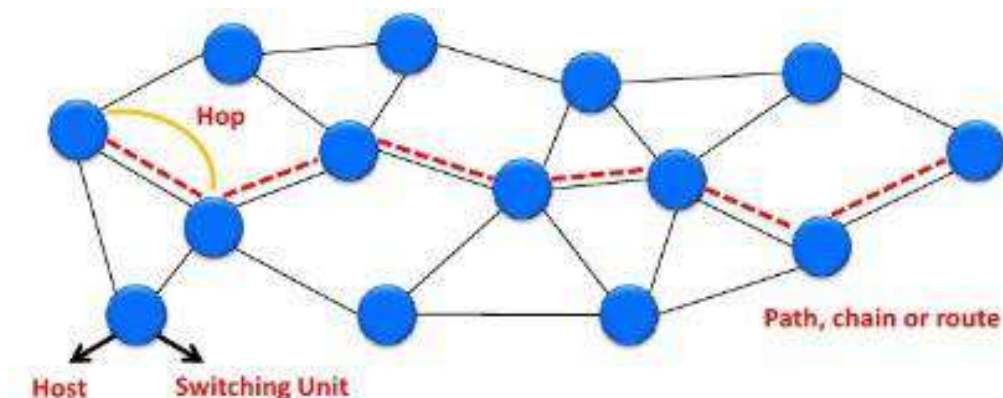

Figure 1.1 Multi- Hop Wireless Ad-Hoc Networks
- In a wireless ad-hoc network, a collection of devices (or nodes) is responsible for network operations, such as routing, security, addressing and key management. Figure 1.1 shows, multi-hop wireless ad hoc networks, it defined as a collection of nodes that communicate with each other wirelessly by using radio signals with a shared common channel.